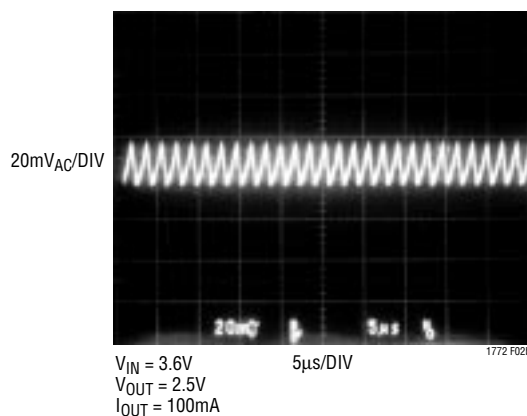

Figure 2. Output Ripple Waveforms for the Circuit of Figure 1.
*OUTPUT RIPPLE WAVEFORMS FOR THE CIRCUIT OF FIGURE 1 APPEAR IN FIGURE 2.
Note 6: Peak current sense voltage is reduced dependent on duty cycle to a percentage of value as given in Figure 2.
Figure 2 illustrates this result for the circuit of Figure 1 using both an LTC1772 in Burst Mode operation and an LTC1772B (non-Burst Mode operation). At an output current of 100mA, the Burst Mode operation part exhibits an output ripple of approximately $60mV_{P-P}$, whereas the non-Burst Mode operation part has an output ripple of only $20mV_{P-P}$. At lower output current levels, the improvement is even greater. This comes at a tradeoff of lower efficiency for the non-Burst Mode operation part (see Figure 1). Also notice the constant frequency operation of the LTC1772B, even at 5% of maximum output current.